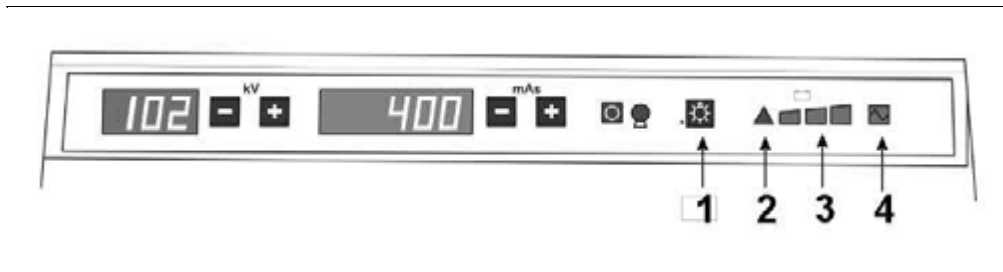

Fig. 13: Battery status display
Connect the power plug and check whether the AC symbol (~) lights up on the control panel (4/Fig. 13 / p. 32).
At least one of the 3 battery status LEDs must light up for the checks in exposure operation (3/Fig. 13 / p. 32).
- Test the collimator light key on the control panel (1/ Fig. 13 / p. 32).